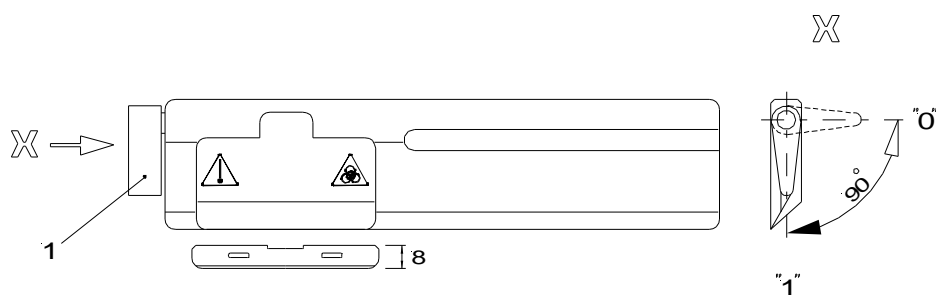

Fig. 13
- The clamping lever on the blade holder can be positioned in two ways: 0 = loosened, 1 = clamped (fig. 13).